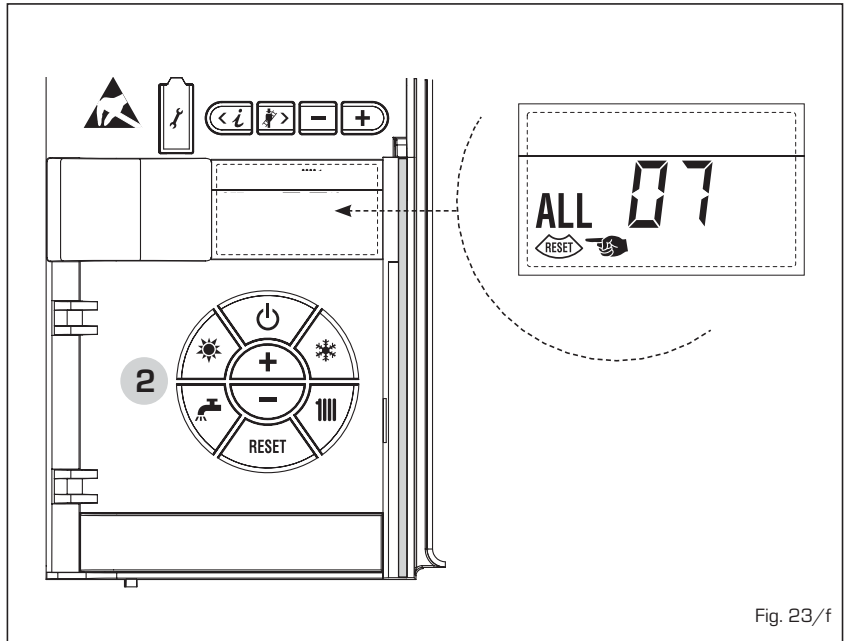

Fig. 23/f
- **FLAME DETECTION ERROR ALARM 08 (fig. 23/g)**